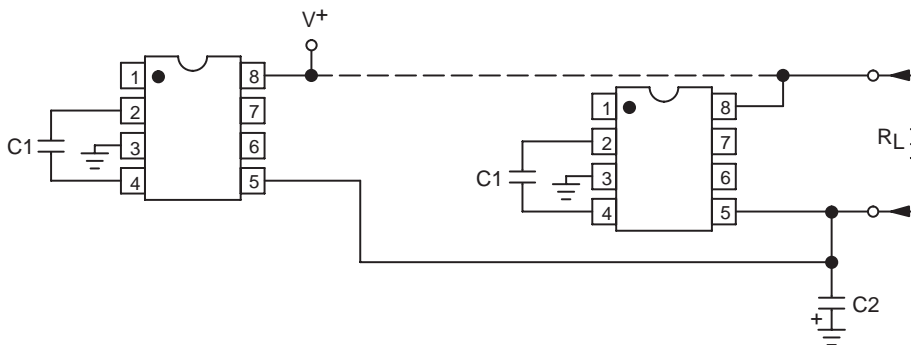
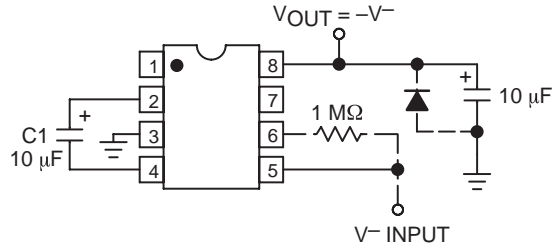
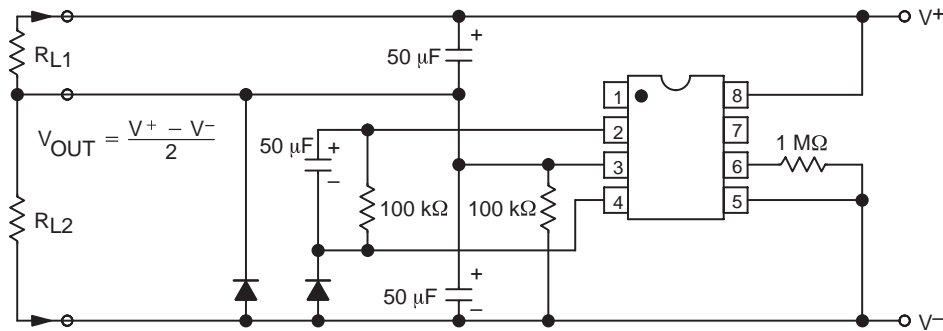
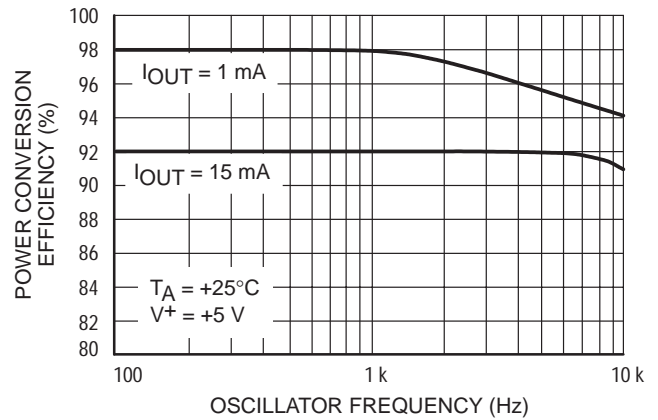

**Figure 3. Simple Negative Converter**
**Figure 9. Combined Negative Converter and Positive Multiplier**
**Figure 10. Positive Voltage Conversion**
**Figure 11. Splitting a Supply in Half**
Figure 3 shows typical connections to provide a negative supply where a positive supply is available. A similar scheme may be employed for supply voltages anywhere in the operating range of +1.5V to +10V, keeping in mind that pin 6 (LV) is tied to the supply negative (GND) only for supply voltages below 3.5V.
The output characteristics of the circuit in Figure 3 are those of a nearly ideal voltage source in series with 70Ω. Thus, for a load current of -10mA and a supply voltage of +5V, the output voltage would be -4.3V.
Figure 9 combines the functions shown in Figures 3 and 8 to provide negative voltage conversion and positive voltage multiplication simultaneously. This approach would be, for example, suitable for generating +9V and -5V from an existing +5V supply. In this instance, capacitors C1 and C3 perform the pump and reservoir functions, respectively, for the generation of the negative voltage, while capacitors C2 and C4 are pump and reservoir, respectively, for the multiplied positive voltage. There is a penalty in this configuration which combines both functions, however, in that the source impedances of the generated supplies will be somewhat higher due to the finite impedance of the common charge pump driver at pin 2 of the device.
Since the switches that allow the charge pumping operation are bidirectional, the charge transfer can be performed backwards as easily as forwards. Figure 10 shows a ICL7660 transforming  $-5V$  to  $+5V$  (or  $+5V$  to  $+10V$ , etc.). The only problem here is that the internal clock and
switch-drive section will not operate until some positive voltage has been generated. An initial inefficient pump, as shown in Figure 9, could be used to start this circuit up, after which it will bypass the other ( $D_1$  and  $D_2$  in Figure 9 would never turn on), or else the diode and resistor shown dotted in Figure 10 can be used to "force" the internal regulator on.
The same bidirectional characteristics used in Figure 10 can also be used to split a higher supply in half, as shown in Figure 11. The combined load will be evenly shared between the two sides. Once again, a high value resistor to the LV pin ensures start-up. Because the switches share the load in